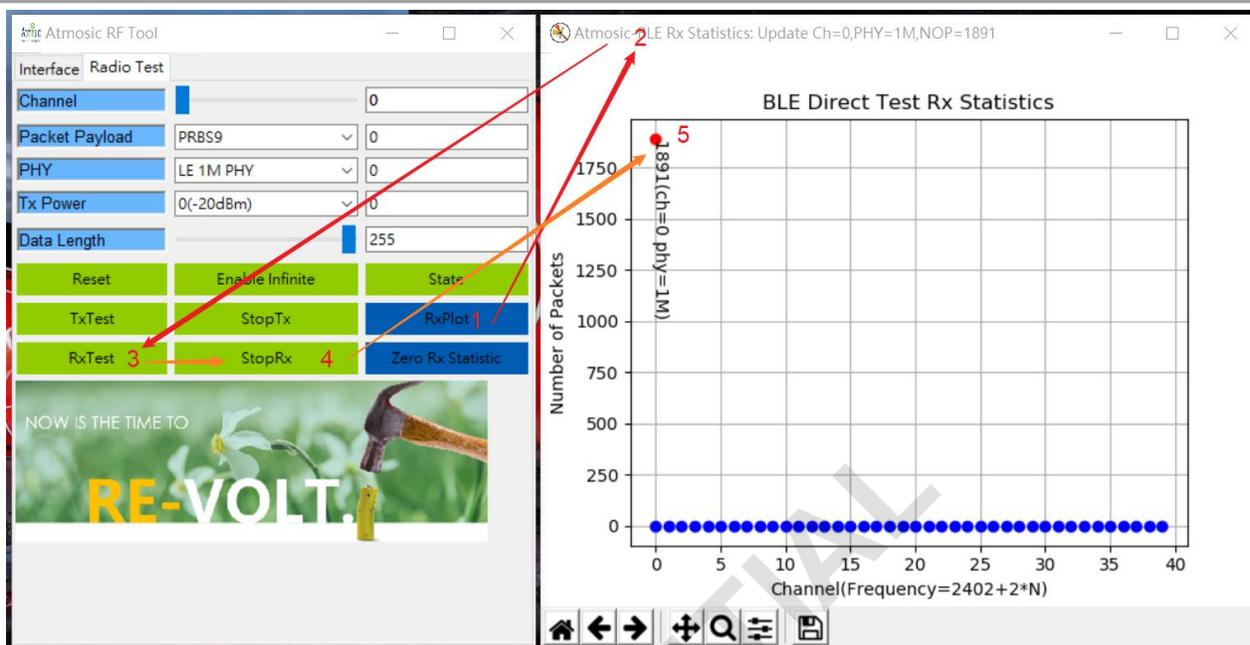

Figure 9 - The Receive Package Counter Operation Procedure
- Figure 9 - The Receive Package Counter Operation Procedure
Rx mode also provides the function of receiving packet counter. The user first needs to press the Rx plot button. A new "BLE Direct Test Rx Statistics" window will pop up. Then press the RxTest button, the received packets start counting, and stop counting until pressing the "StopRx" button. Finally, the received packets are shown in the "BLE Direct Test Rx Statistics" window. Press the "Zero Rx Statistic" button, the receive package can be reset to zero. The simple test process is shown in Figure 9.